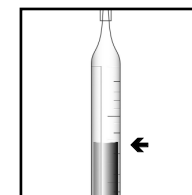

Figure 6
9. When the color of the liquid in the ampoule changes to **COLORLESS**, remove the ampoule from the Titrettor. Hold the ampoule in a vertical position and read the scale opposite the liquid level (fig. 6). Results are expressed in ppm (mg/Liter) carbon dioxide as CO₂.